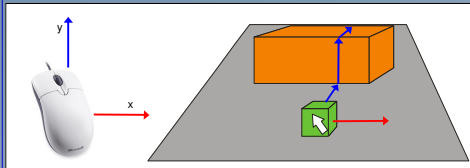

Figure 1 – SESAME sliding technique.
- **SESAME[1]:** 2DOF technique using the mouse. See Fig. 1 & 4.